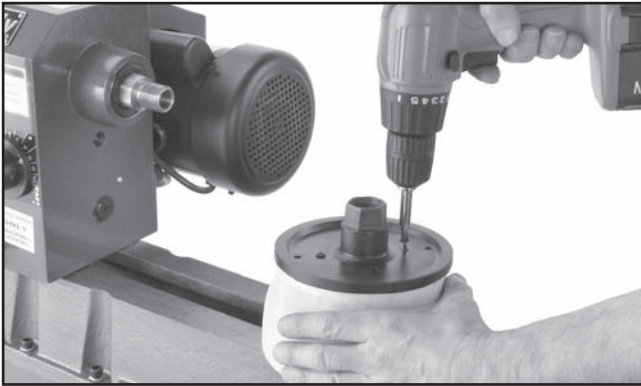
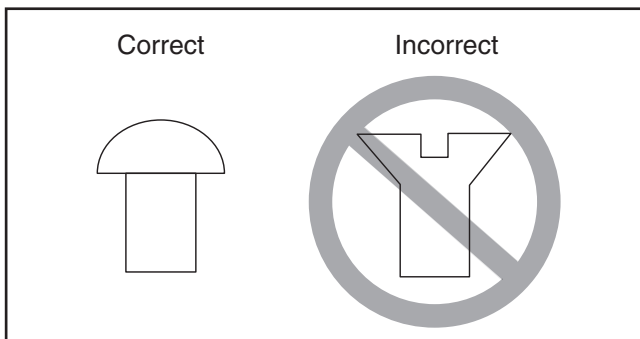

Figure 40. Typical attachment of faceplate to workpiece.
Figure 41. Correct and incorrect screw types.
2. Center the faceplate on the workpiece and attach it, as shown in **Figure 40**, with wood screws that do not have tapered heads (see **Figure 41**).
Only use screws with non-tapered heads (see Figure 41) to attach the faceplate to the workpiece. Screws with tapered heads can split the faceplate or snap off during operation.